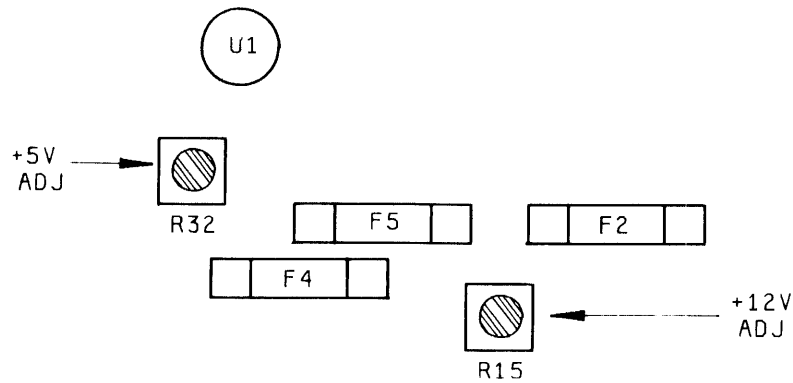

Figure 5-2. +5 V and +12 V Adjustment Location on Power Supply
- e. Adjust A5R32 (figure 5-2) until DVM indicates +4.95 V (limits +4.93 to +4.97 V).
- h. Adjust A5R15 (figure 5-2) until DVM indicates 12.00 V (limits +11.50 to +12.50).